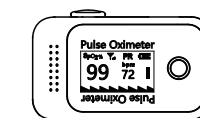
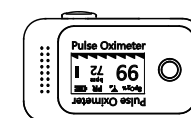

Figure 7
Figure 8
1. Press the "POWER/FUNCTION" button to power on the device. Press it again to rotate the display orientation, as shown in **Figure 7** and **Figure 8**.